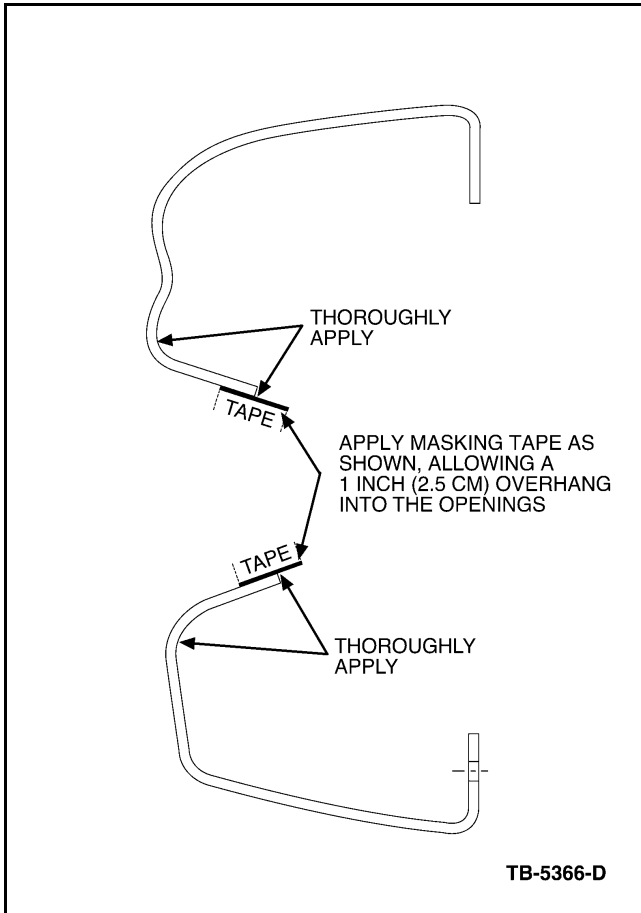

Figure 1 - Article 08-12-6
8. Remove the four (4) front bumper retaining bolts as shown in WSM, Section 501-19: Bumpers. Remove the front bumper from the vehicle.
12. Install masking tape to all three (3) openings. (Figure 1)
- Install masking tape (typical) in center air opening and, if equipped, the two (2) round fog lamp openings. (Figure 1)